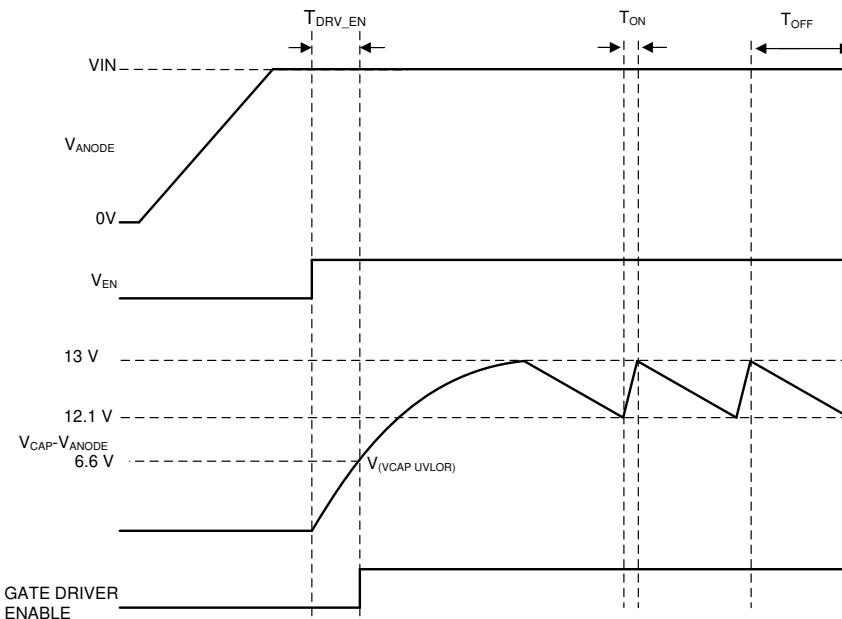

图 9-1. Charge Pump Operation
- To remove any chatter on the gate drive approximately 900 mV of hysteresis is added to the VCAP undervoltage lockout. The charge pump remains enabled until the VCAP to ANODE voltage reaches 13 V, typically, at which point the charge pump is disabled decreasing the current draw on the ANODE pin. The charge pump remains disabled until the VCAP to ANODE voltage is below to 12.1 V typically at which point the charge pump is enabled. The voltage between VCAP and ANODE continue to charge and discharge between 12.1 V and 13 V as shown in 图 9-1. By enabling and disabling the charge pump, the operating quiescent current of the LM74700-Q1 is reduced. When the charge pump is disabled it sinks 5- $\mu$ A typical.